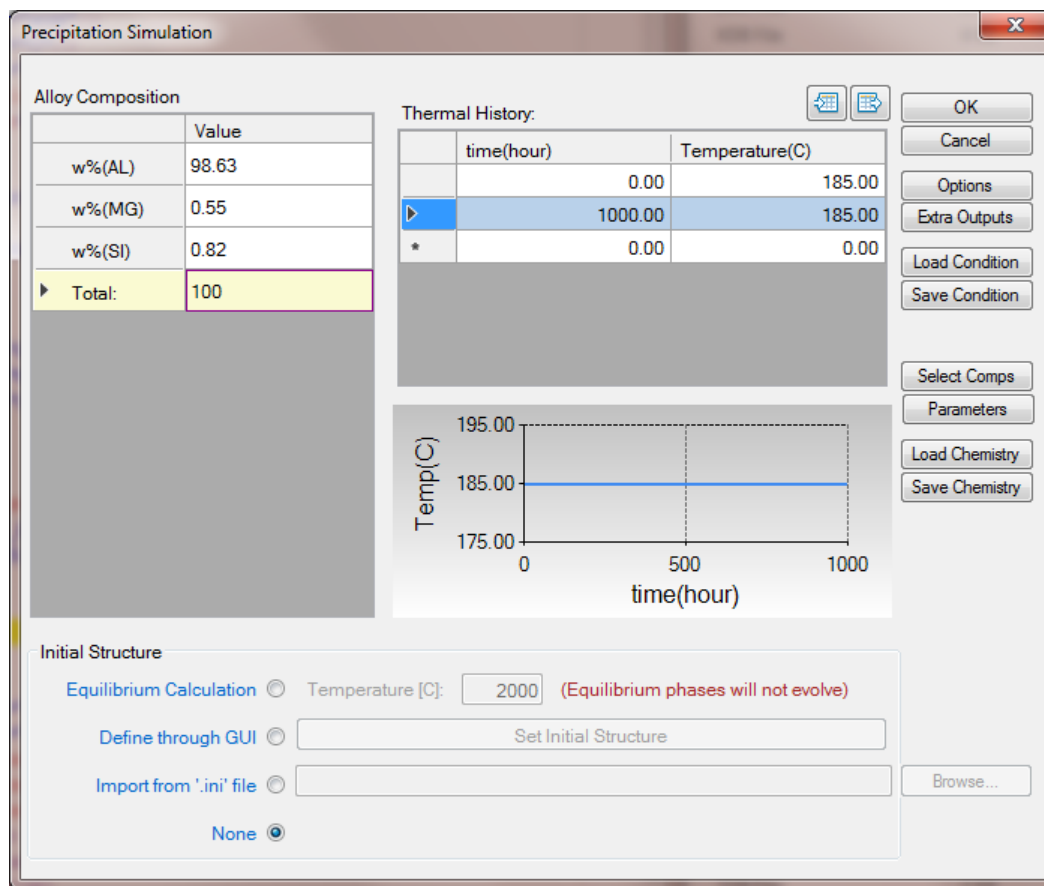

Figure 3.4.2: Setup alloy chemistry and heat treatment condition
- Click on PanPrecipitation->Precipitation Simulation, and set up the calculation condition as shown in Figure 3.4.2. Note the alloy composition is wt% (click Option button to select the unit);